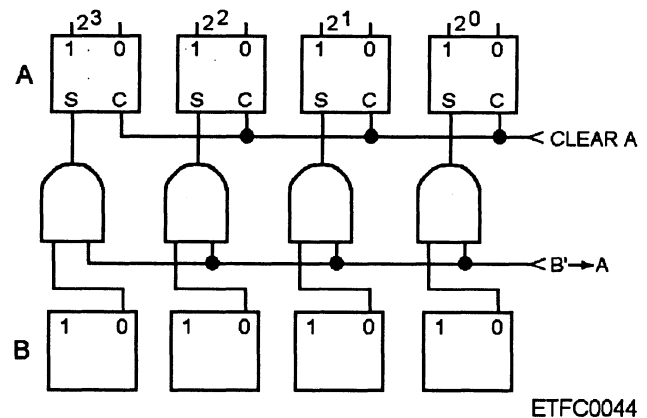

Figure 4-27.—Example of a single-line parallel complement transfer.
- Complement—Similar to the single-line parallel transfer except that the receiving register's set side of the flip-flops will receive the clear side of the sending register's flip-flops; thus the data has been complemented after the transfer is complete. Refer to figure 4-27.